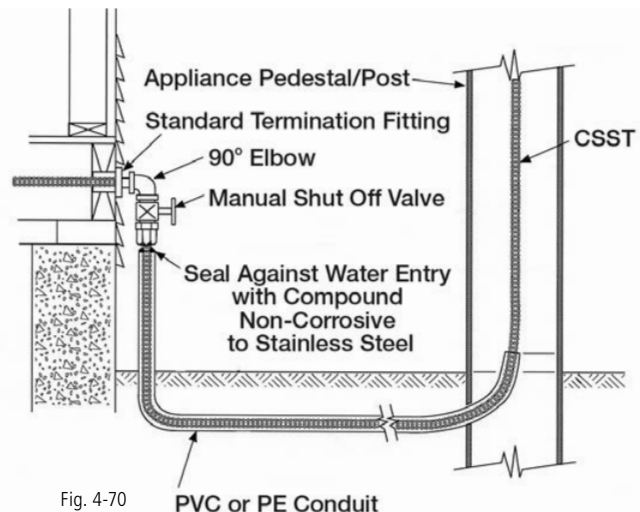

Fig. 4-70
- d) Yard Mounted Lights – Shall be connected to the Gastite®/FlashShield® CSST system as shown in Figure 4-70. All Gastite®/FlashShield® CSST installed below grade shall be installed in accordance with Section 4.9.